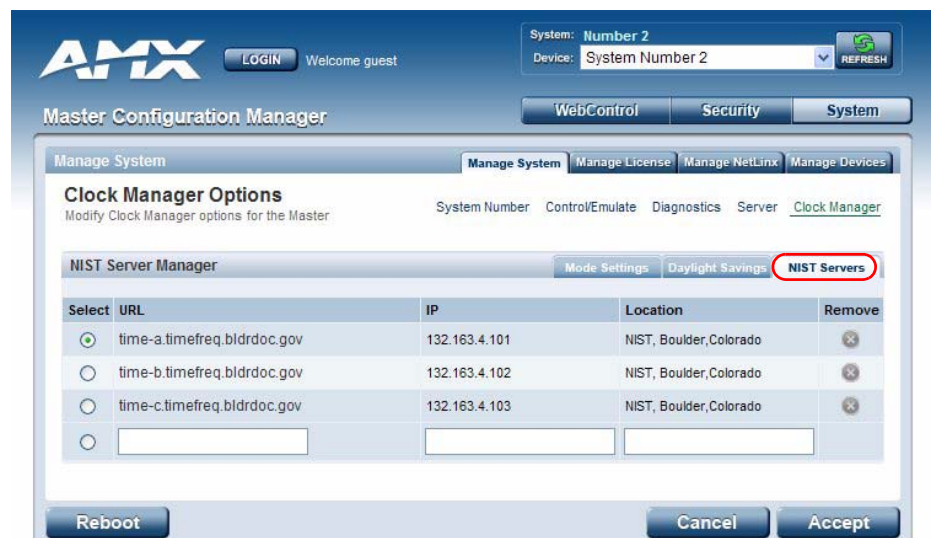

FIG. 61 Clock Manager Options - NIST Servers tab
1. In the *NIST Servers* tab (FIG. 61), use the radio buttons to select one of the NIST Servers in the list.